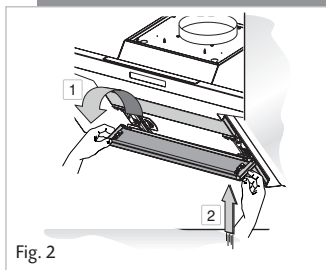

Fig. 2
1. Remove the stainless steel cover panels as shown in fig 2.